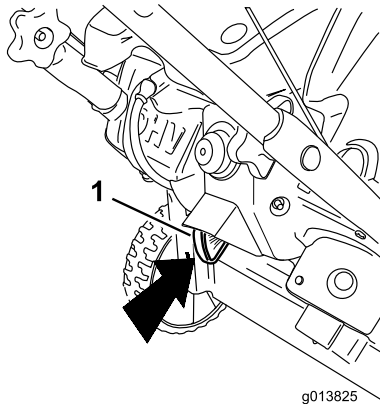

Figure 15
1. Push the ignition key fully inward to the On position (Figure 15).